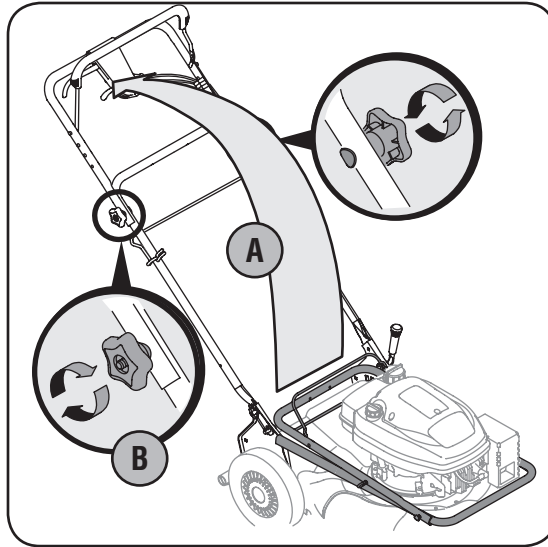

Figure 1
- a. Pull up and back on the upper handle to raise the handle from position A. See Figure 1.